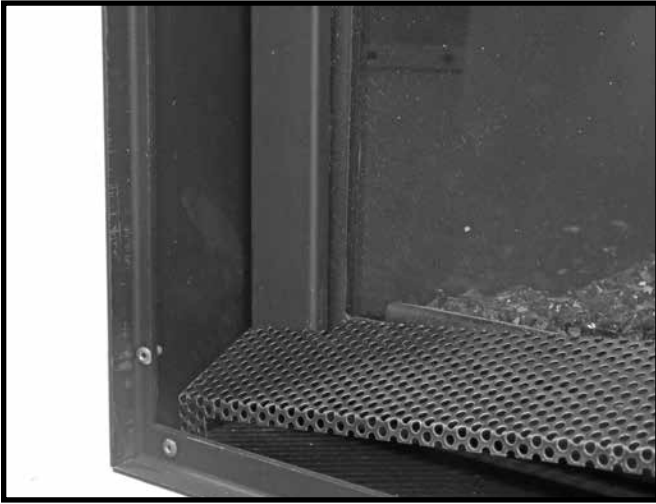
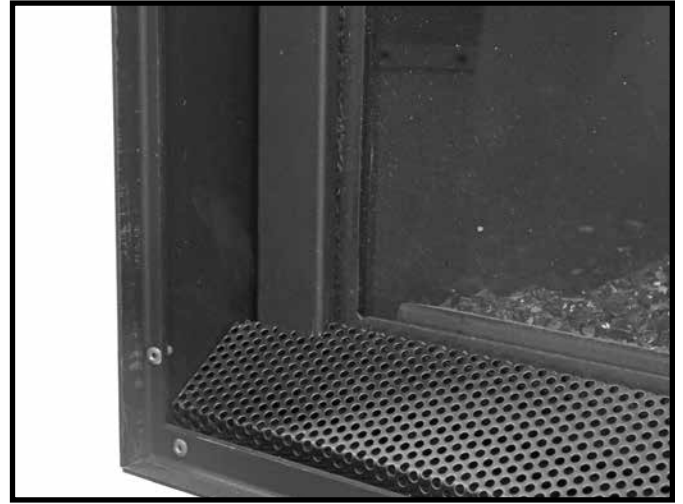

Figure 55: Installing bottom trim.
Figure 56: Bottom trim in place.
4. The meshed trim piece for the bottom rests on the floor and in the gap between the outer-most door frame and the fireplace glass (Figure 55 and Figure 56).